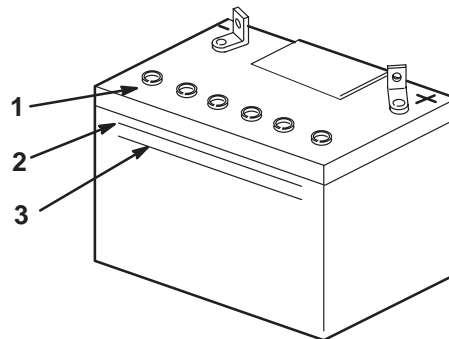

Figure 71
2. Look at the side of the battery. The electrolyte must be up to the **upper** line (Fig. 71). Do not allow the electrolyte to get below the **lower** line (Fig. 71).
3. Remove the vent caps from the battery (Fig. 71).
4. Slowly pour distilled water into each battery cell until the level is up to the **upper** line (Fig. 71) on the battery case.
5. Wait five to ten minutes after filling the battery cells. Add distilled water, if necessary, until the electrolyte level is up to the **upper** line (Fig. 71) on the battery case.